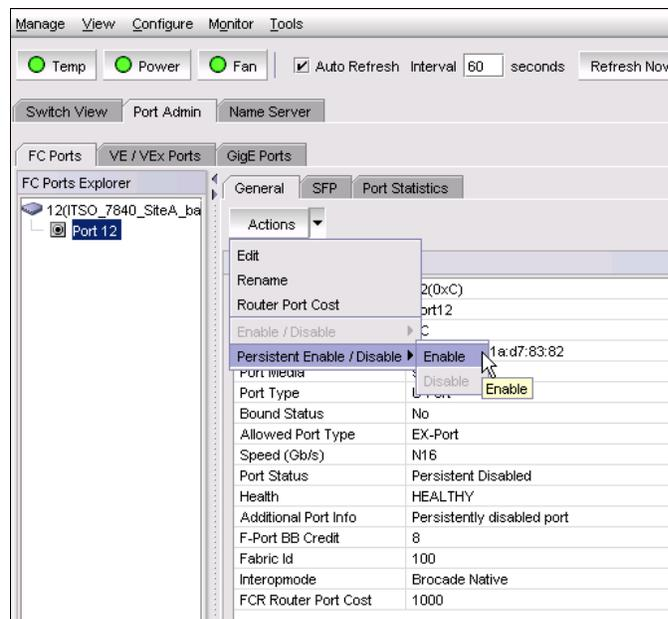

Figure 6-44 Enable the port
3. Select this port and click **Actions** → **Persistent Enable/Disable** → **Enable** to enable this port (Figure 6-44).